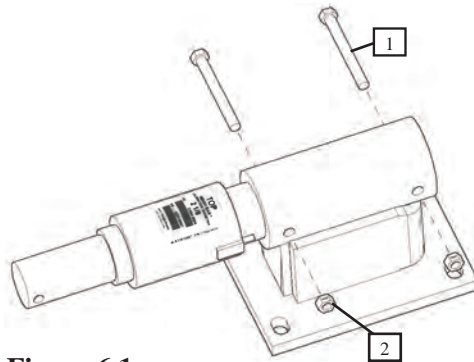

Figure 6.1
1. Slide the weigh bar into the scale mount. Making sure that the Weigh bar sticker is facing up (Figure 6.1).
2. Insert two 3/8"-16 X 3 1/2" Grade 5 Zinc Hex Bolt (#1) into scale mount and tighten using 3/8"-16 Centerlock Hex Nut (#2) (Figure 6.1).